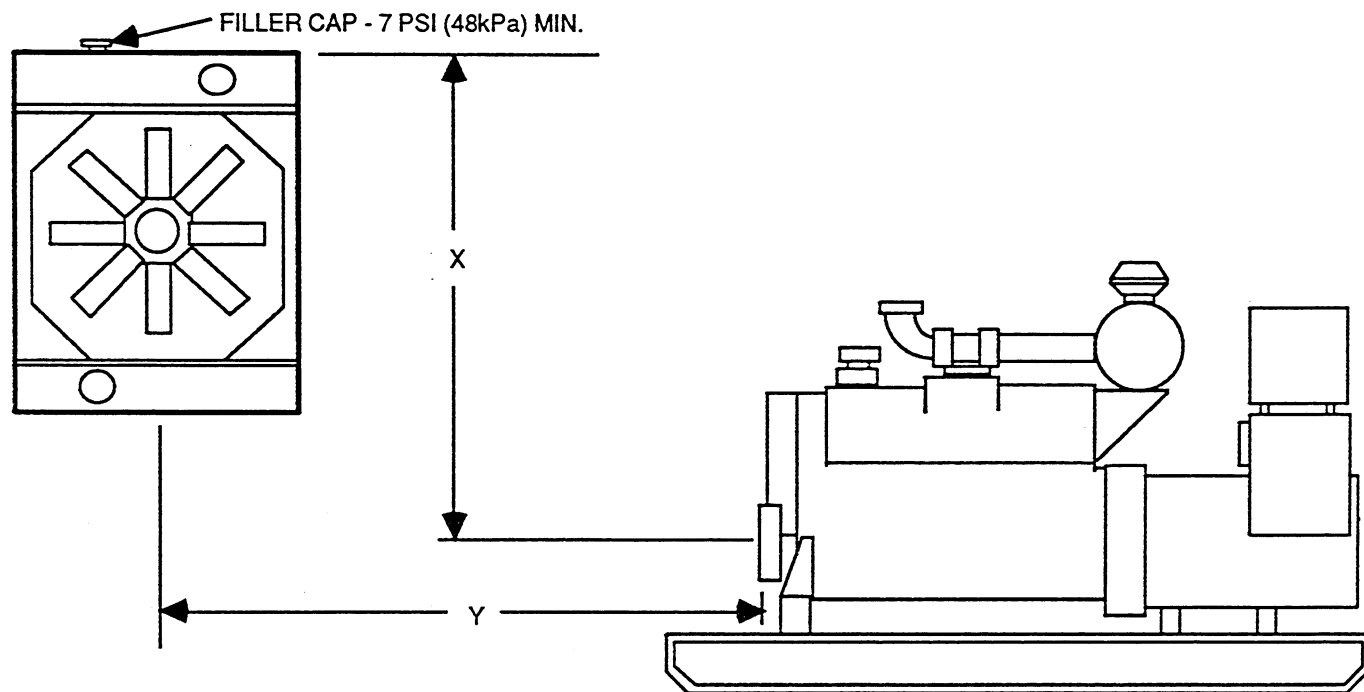

FIGURE 6. REMOTE RADIATOR INSTALLATION
Two key design considerations in a remote radiator installation are the vertical distance (X) from the engine centerline to the radiator top and the horizontal distance (Y) from the engine front to the radiator centerline (see Figure 6). These distances determine if any additional equipment is required such as a surge tank, auxiliary pump, or hot well. All remote radiator installations must be designed to insure that the system will function properly. Follow the instructions of the consulting engineer when installing a remote radiator system.